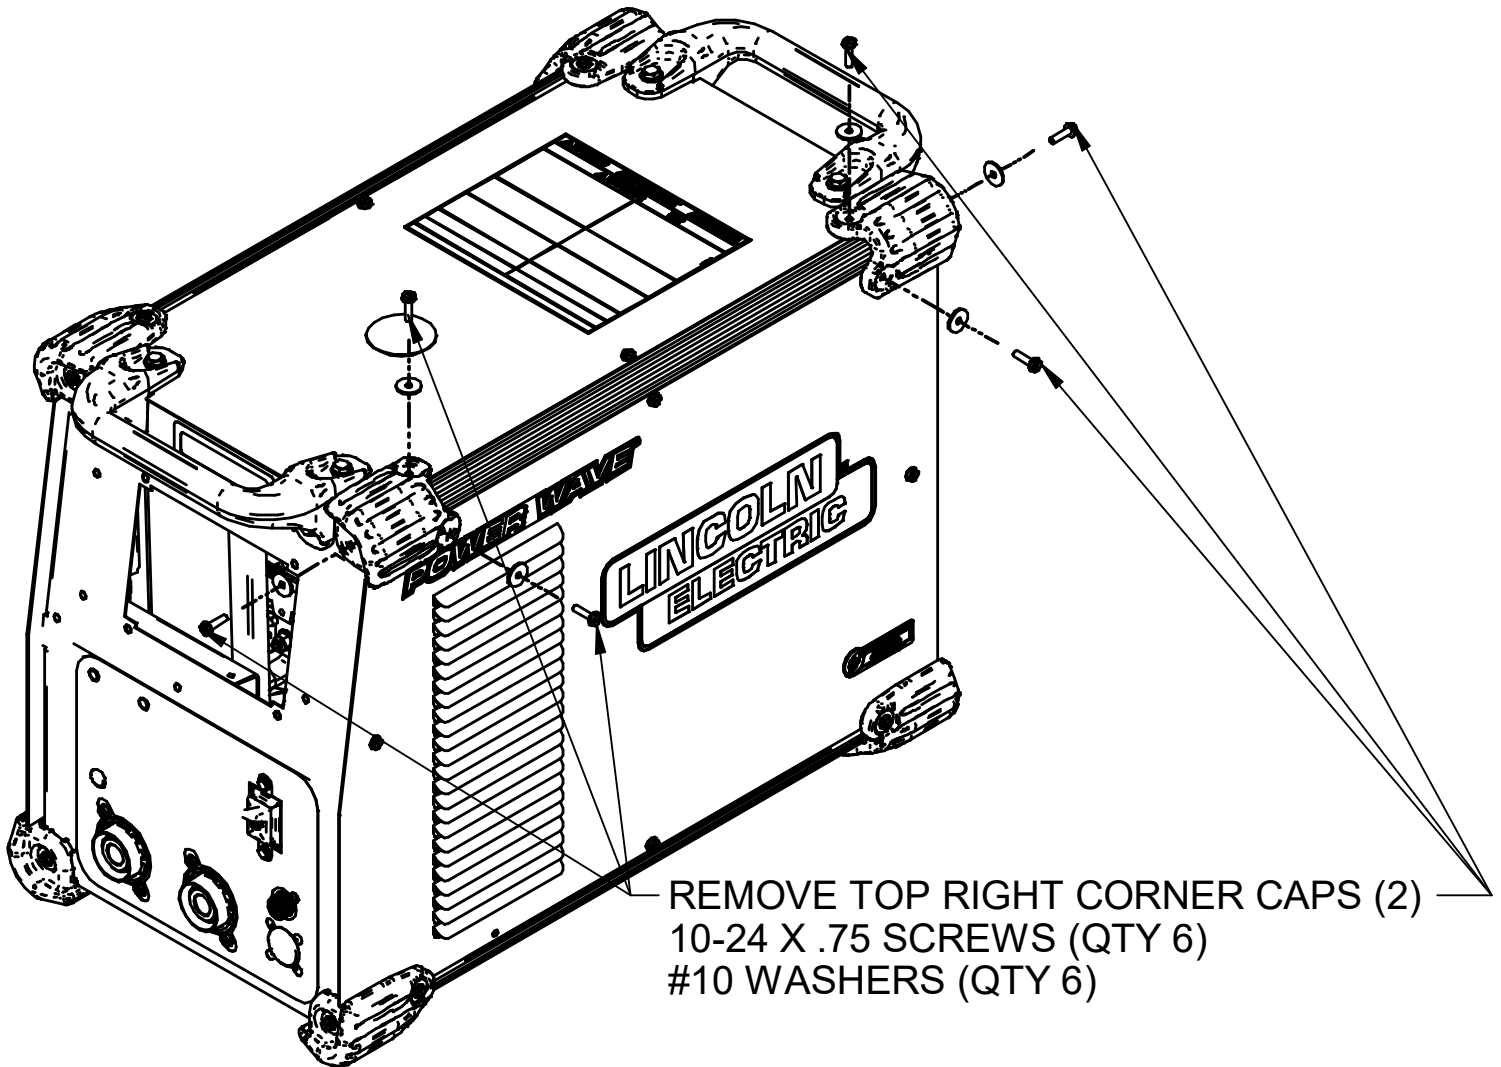

FIGURE 2
4. Remove the two top right Corner Caps by removing the screws and washers mounting them, using a 5/16" nut driver or other suitable tool (**Figure 2**). Retain all mounting hardware for reinstalling the Corner Caps.